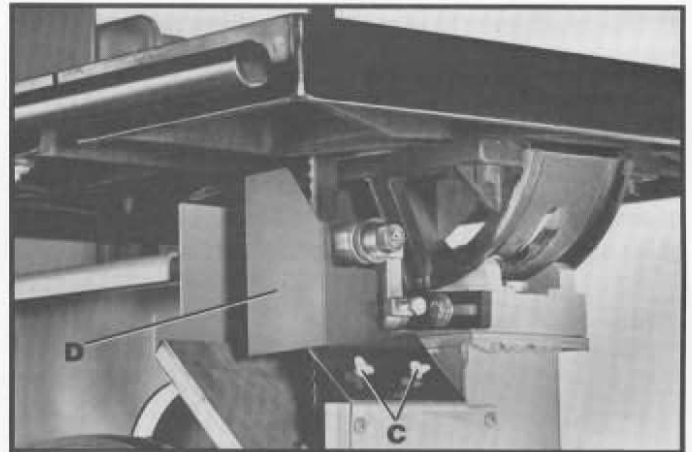

Fig. 25
3. Remove two screws (C) Fig. 25, and remove the lower blade guard (D).